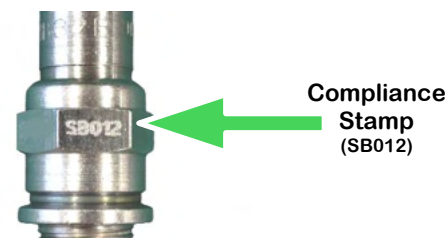

Figure 4
5. If cracks are found, replace the spark plug(s). If replacing with new Tempest® spark plug(s), verify the new spark plugs carry compliance stamp SB012 as shown in Figure 4 or are outside the part number and lot numbers listed in Table 1 above.